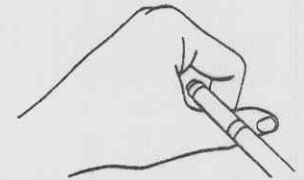

Figure 3-6. Illumination test.
- (1) Connect the light carrier cable to the endoscopic instrument light source and turn it on in accordance with the procedures contained in the applicable technical manual or manufacturer's information for the light source.
- (2) Cup your fingers around the distal end of the flexible shaft to form a tunnel as shown in figure 3-6. Examine the entire visual field for uniform illumination.